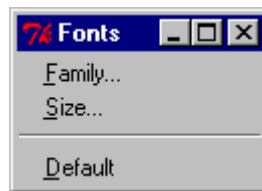

Figure 5-6. Fonts Characteristics Dialog Box
2. Click Fonts. . . The Fonts dialog box appears. Figure 5-6 shows the Fonts dialog box:
2. *Click* Fonts. . . The Fonts characteristics dialog box appears as shown in Figure 5-6.